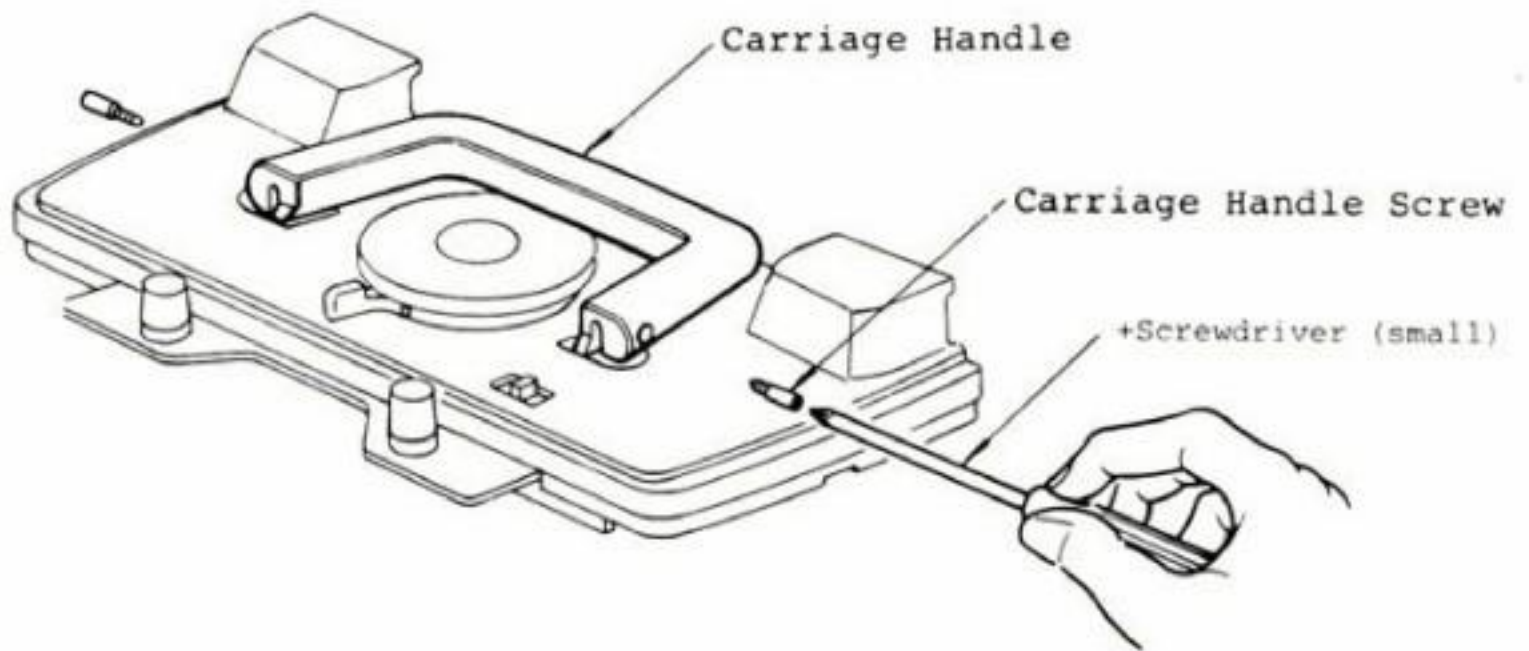

FIG.6
1. Fold the Carriage Handle away from you as shown in Figure 6.